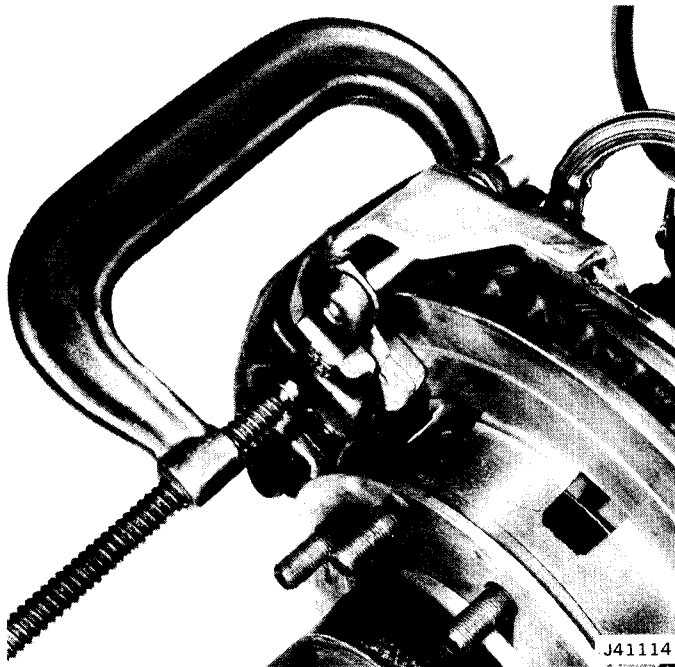

Fig. 9-28 Bottoming Piston with C-Clamp
- (1) Remove two-thirds of brake fluid from front reservoir.
- (2) Raise vehicle.
- (3) Remove front wheel and tire assemblies.
- (4) Place C-clamp on caliper (fig. 9-28). Solid end of clamp should contact back of caliper. Screw end should contact metal part of outboard shoes. Tighten clamp until caliper moves far enough to force piston to bottom of bore (this will back shoes off rotor surface, easing lining removal and installation). Remove C-clamp.
- (1) Remove two-thirds of the brake fluid from front reservoir.
- (3) Remove wheel and tire assemblies.
- (4) Bottom caliper piston with C-clamp (fig. 9-28).
- (5) Clean brake hose-to-caliper connection thoroughly. Remove hose-to-caliper bolt. Cap or tape open connections to keep out dirt. Discard copper gaskets.
- (6) Remove caliper assembly and remove shoes from caliper.
- (7) Wash caliper exterior with clean brake fluid. Drain residual fluid from caliper. Place caliper on clean work surface.